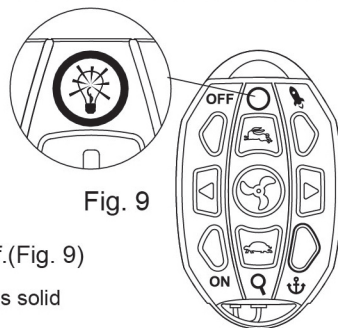

Fig. 9
4. Press "OFF" button to turn of remote control. Light is now off. (Fig. 9)